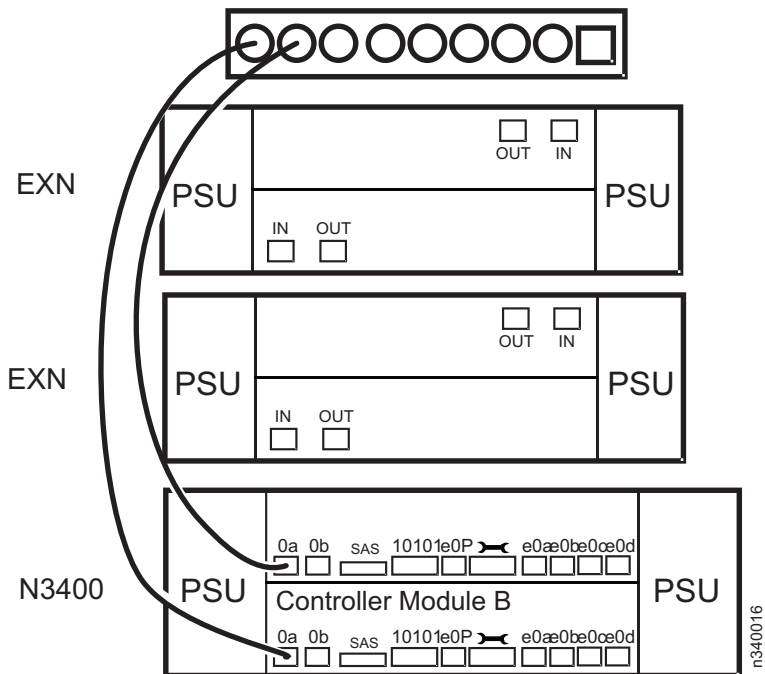

Figure 13. Cabling to the Fibre Channel switch
1. Cable the N3400 to the Fibre Channel switch as shown in Figure 13 on page 14.